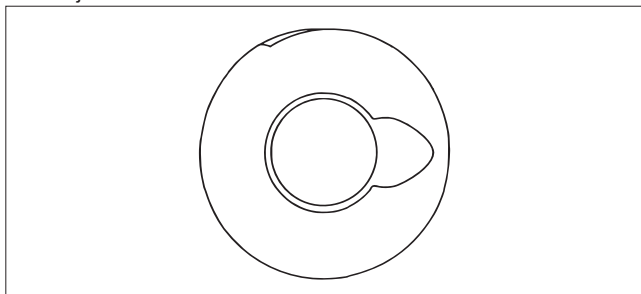

Figure 4.
3. Holding the stem in place from the bottom, install the stem seal (8) and the compression plate (20).
4. Place the disc springs (31) on top of the compression plate over the bolt holes and insert the hex head cap screws (29) and bring them down hand tight with the disc springs. **NOTE:** (See Figure 4) for proper disc spring orientation.
5. While pressing the stem upward from inside the body, torque the hex head cap screws (29) applying the torque shown (in Table 3). Apply torque evenly alternating between the two hex head cap screws so that the compression plate will be parallel with the valve body bonnet.
6. Align the stem blade with the ball slot. Insert the ball (3) and then rotate the stem (4) so that the ball is in the closed position.
7. If removal of diffuser is absolutely necessary, clean off sealing surfaces of diffuser and body caps. Apply Loctite Gasket Eliminator #515 360° around diffuser (32) and mating surfaces of body cap (2). Now insert the small end of the diffuser into the body cap. The diffuser may not press all the way into the body cap at this time. This is normal. The diffuser will seat itself when the valve is fully assembled. Repeat this procedure with the other diffuser and body cap.
8. Work at either end of the body (1). You must pay attention to the flow arrows only if you have an RM coded valve, then place the seat (5) upstream and seat (9) downstream (see Figure 4). Fit the seats snugly against the closed ball. **NOTE:** Be certain the sealing surface of the seat is toward the ball (see Figure 4).
1. Install the actuator and bracket before the valve is in the pipeline. For maximum potential Cv adjust the actuator so that the ball port is in line with the pipe axis (**Figure 4**). For minimum potential Cv adjust the actuator so that the position indicator on top of the actuator reads, over closed, or past the closed position as much as possible, i.e. the valve and actuator should stroke as close to 105° as possible.